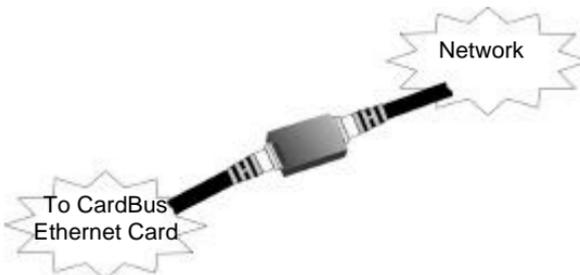

Figure 2.3.4 Connection Using RJ-45 Adapter
- b. If your network uses a twisted-pair cable with male RJ-45 connector, connect the Ethernet adapter cable to one end of the provided female-to-female RJ-45 adapter. Then connect the twisted-pair network cable to the other end of the RJ-45 adapter. (The cable connection is shown in Figure 2-3.4.)